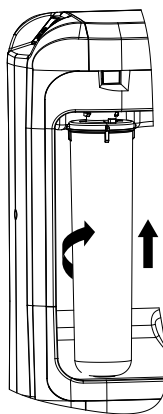

Fig. 10a
- The cartridges are inserted into the corresponding collectors until they stop and turn clockwise, as shown in Fig. 10a, until hear a click.
- Insert a new cartridge into the corresponding collector until it stops and turn clockwise, as shown in Fig. 10a, until a click.